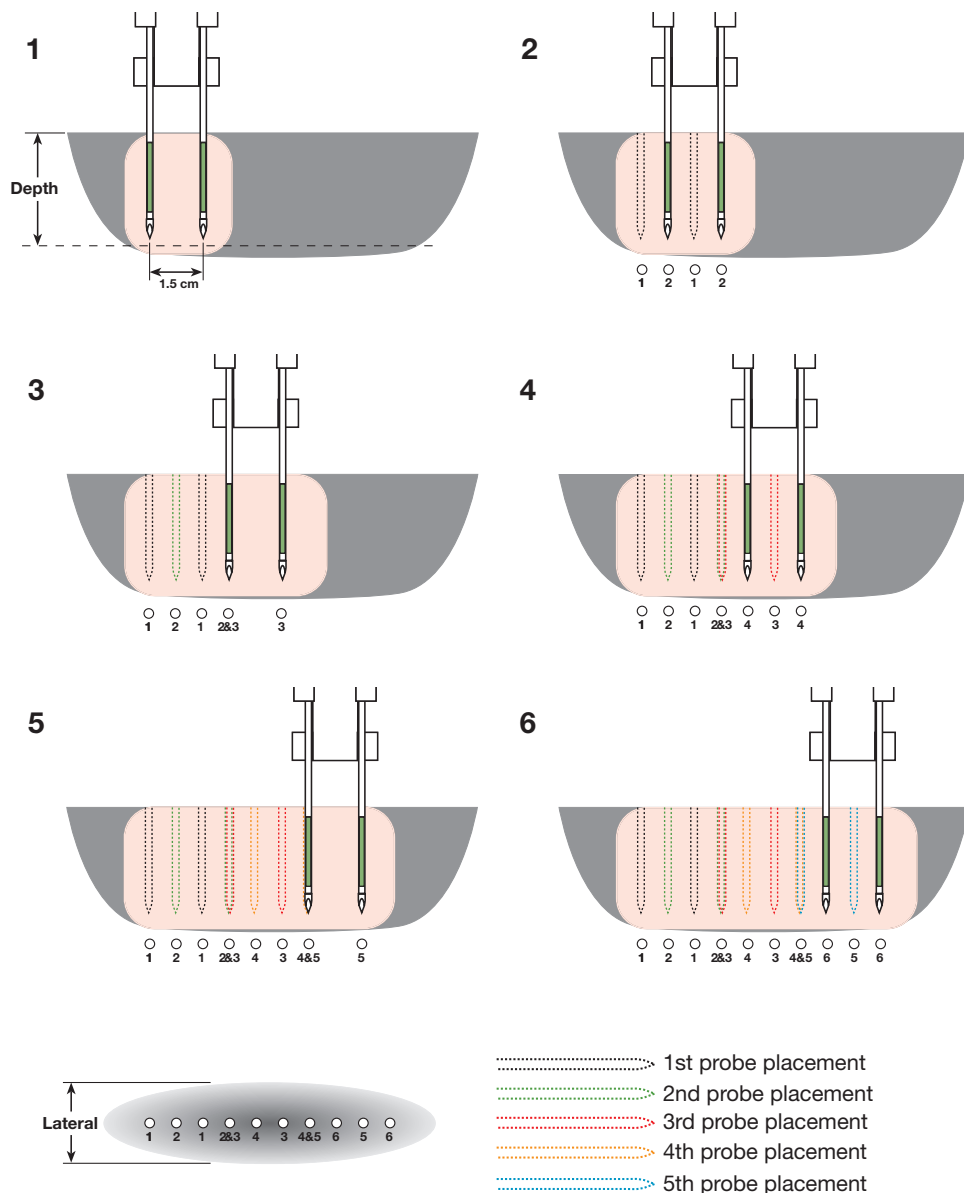

Figure 4-28: Two-Probe Planar Coagulation probe placement
3. Insert two (2) NeuWave Ablation Probes into the Surgical Clip. Using the surgical clip ensures both a 1.5 cm spacing between the probes as well as parallel probe placement.
4. Use Figure 4-28 as guidance for probe placement. Insert the two (2) probes into the target tissue. This first placement will correspond to the two probes labeled “1” in Figure 4-28.
Important: For all probe insertions, ensure that the probes are inserted at least 1 mm beyond the solid green area of the probe as noted in Figure 4-28. If the probes are inserted to a more shallow depth, a reflected power error may occur.
6. Remove the probes from the target tissue and move the probes linearly such that one probe is placed between the coagulation zones created by the first probe placement, corresponding to the probes labeled “2” in Figure 4-28.
8. Remove the probes from target tissue and move the probes linearly such that one probe is placed approximately in the same location as the previous placement and one probe is in uncoagulated tissue, corresponding to probes labeled “3” in Figure 4-28.
10. Continue moving probes and delivering power using Figure 4-28 as a guide.
11. Figure 4-28 shows placement guidance for 6 distinct probe placements during the procedure. The same pattern can be used for procedures that require an additional number of placements.